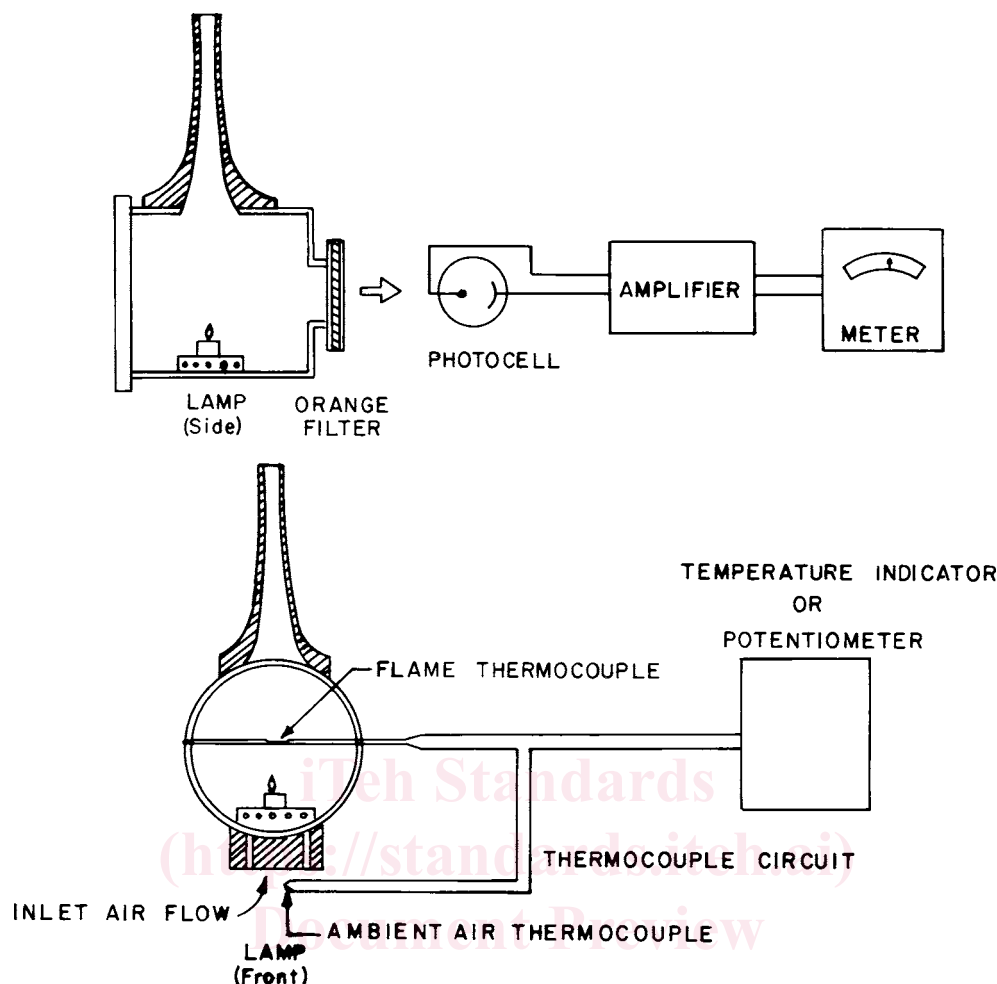

FIG. 1 Diagram of ASTM-CRC Luminometer
6.1 *ASTM-CRC Luminometer*,4 shown schematically in Fig. 1, consisting of three main parts: